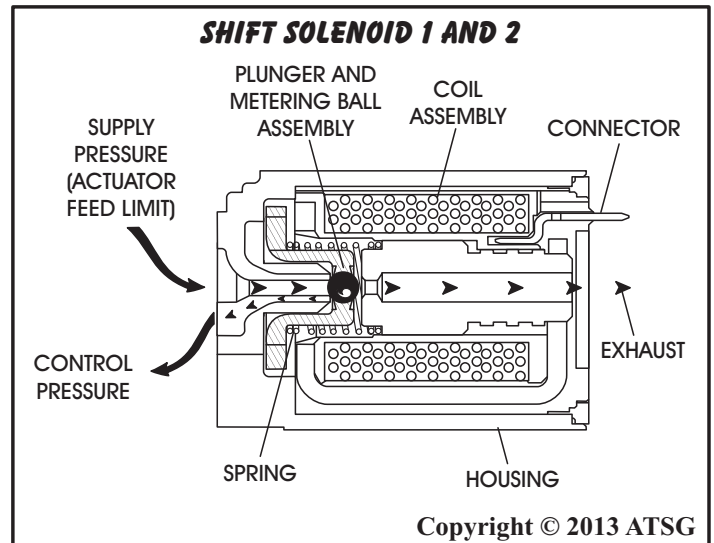

Figure 12
When the TCM provides a path to ground for the electrical circuit to energize (Turn ON) the solenoid, current flows through the coil assembly in the solenoid and creates a magnetic field. The magnetic field moves the plunger and metering ball assembly to the right, as shown in Figure 12, against the exhaust seat, thereby blocking the exhaust passage and creating solenoid control pressure.
Shift solenoids are de-energized (Turned OFF) when the TCM opens the path to ground for the solenoid's electrical circuit. With the solenoid OFF, solenoid spring force moves the plunger and metering ball assembly to the left, as shown in Figure 12, away from the exhaust seat and against the feed seat. This blocks actuator feed limit fluid from entering the solenoid and allows any existing solenoid control pressure to exhaust through the solenoid.
Actuator feed limit fluid feeds the shift solenoid 1 fluid circuit to control clutch select valve 2. When shift solenoid 1 is energized (ON), actuator feed limit fluid is allowed to pass through the solenoid, thereby creating solenoid 1 control pressure, as shown in Figure 12. Solenoid 1 control pressure acts against clutch select valve 2 spring force, to move the valve to the apply position.
When shift solenoid 1 is de-energized (OFF), actuator feed limit fluid is blocked from feeding the solenoid 1 circuit, and any existing solenoid 1 control pressure exhausts through the solenoid, as shown in Figure 12.
Actuator feed limit fluid feeds the shift solenoid 2 fluid circuit to control clutch select valve 3. When shift solenoid 2 is energized (ON), actuator feed limit fluid is allowed to pass through the solenoid, thereby creating solenoid 2 control pressure, as shown in Figure 12. Solenoid 2 control pressure acts against clutch select valve 3 spring force, to move the valve to the apply position.
When shift solenoid 2 is de-energized (OFF), actuator feed limit fluid is blocked from feeding the solenoid 2 circuit, and any existing solenoid 2 control pressure exhausts through the solenoid, as shown in Figure 12.